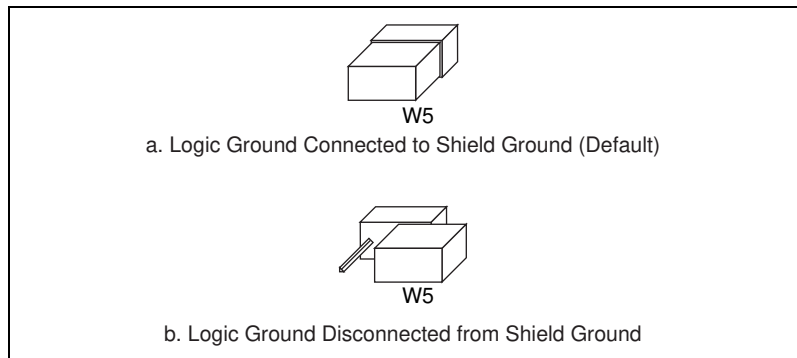

Figure 2-13. PC/104-GPIB Ground Configuration Jumper Settings
2. Remove the jumper and place it across only one of the jumper pins, as shown in Figure 2-13.